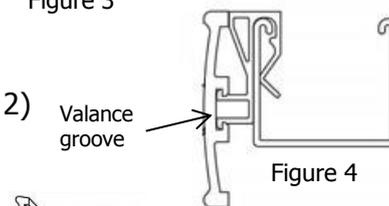

Figure 4
- To attach valance, gently guide the bottom lip of the valance clip (part C) into groove at the back side of the valance. Push the valance onto the valance clips in line with the groove at the back until the top of the valance is flush against the valance clip (Figure 4)